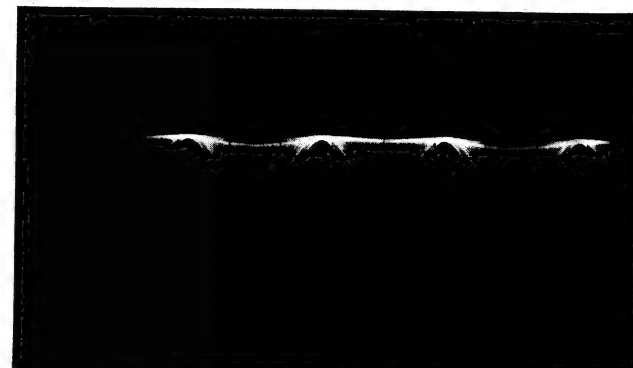

Figure 31 Symmetrical sinewave
- Fine-tune the tuner for symmetrical sinewave on the oscilloscope (see figure 31).
- Adjust CF101 (Front End, figure 32) for minimum distortion (on the distortion meter) and at the same time maximum d.c.-level and symmetrical sinewave on the oscilloscope (see figure 31).